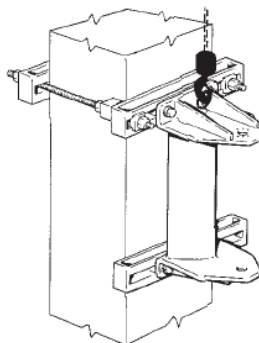

fig.31
1. Lift the bracket to a height with suitable equipment, by putting it in the sling as shown and fix it to the front bracket previously positioned on the pillar (fig.31).